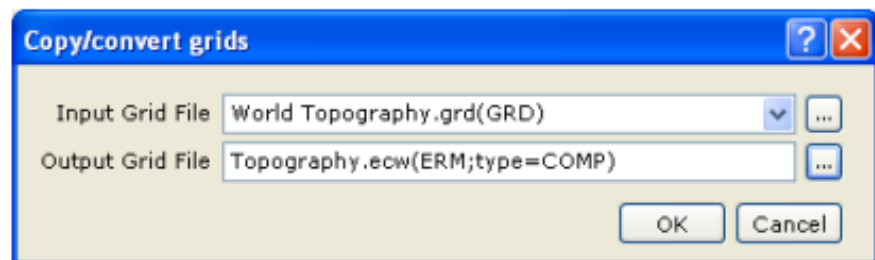

Figure 1.98. –Copying/converting grid files
1. On the *Grid and Image* menu, select *Utilities | Copy/convert*. The *Copy/convert grids* dialog is displayed, fig. 1.98.